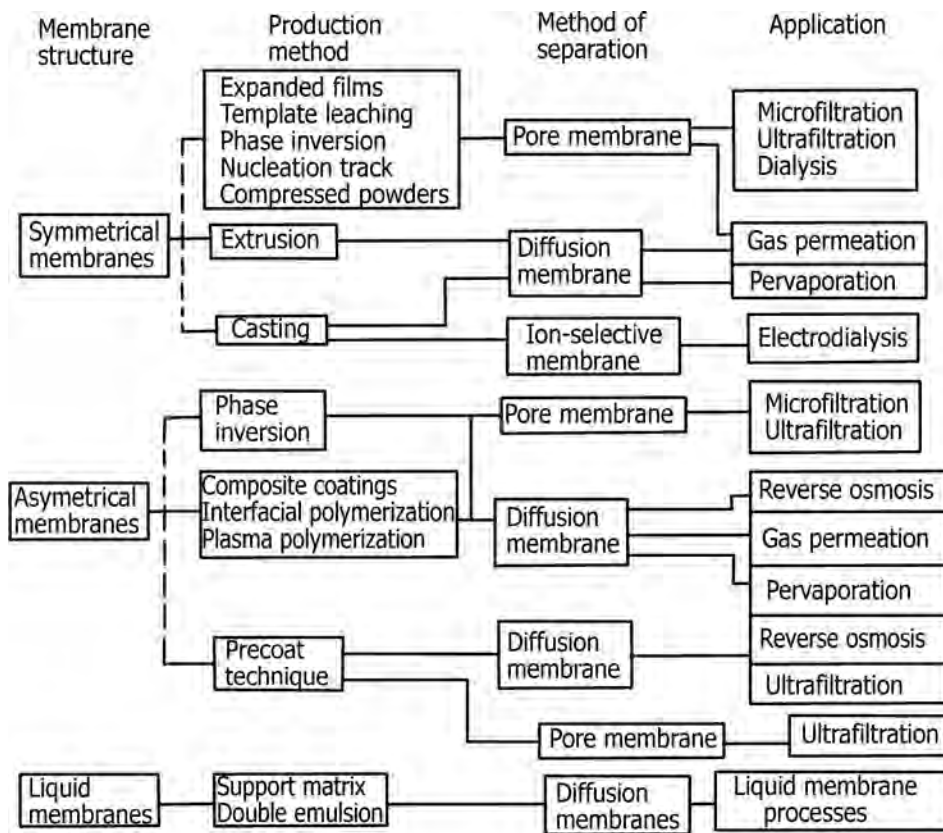

FIGURE 18.46 Classification of membranes.
- Figure 18.46 gives a classification of membranes.